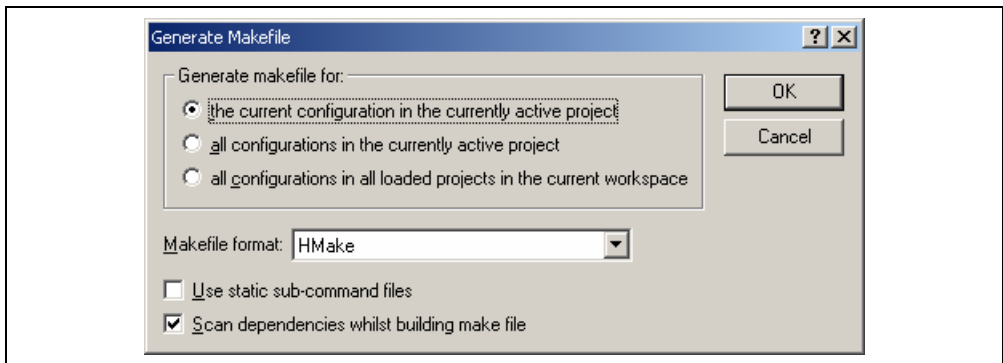

Figure 3.23: Generate Makefile Dialog
4. Select the radio button, which is relevant for your makefile. (See figure 3.23.)